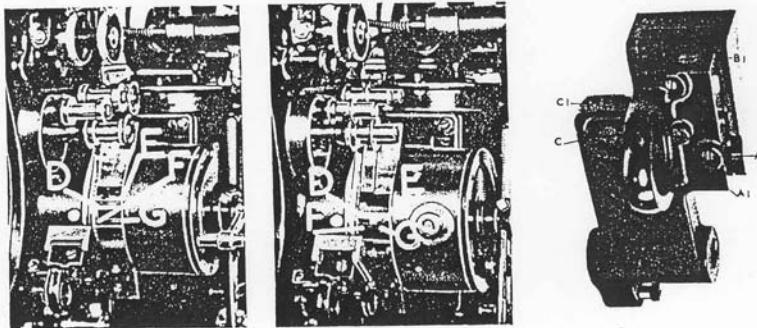

FIGURE 10 - ADJUSTMENT OF GATE SHOE
A. APERTURE GATE (See figure 10.)